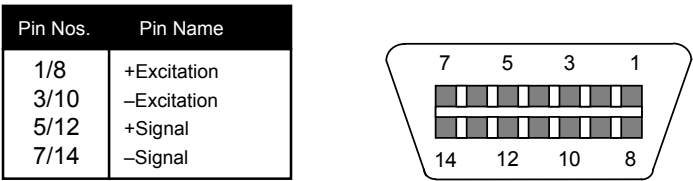

Figure 2-3: Pin assignments for the Load Cell Port
- 3. If you do not wish to use the shielded load cell cable, you may use own, following the pin assignments shown in Figure 2-3. (A 14-pin Male Centronics-type connector is required).